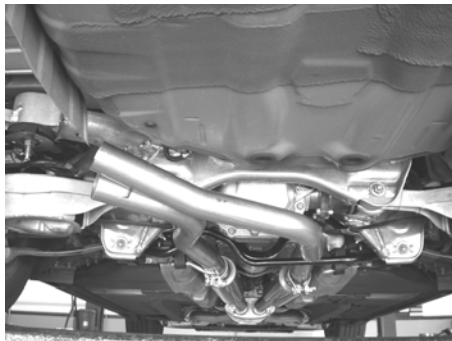

Figure 5
3. Place a clamp over the expanded end of both left and right under axle pipes and set them into position as shown in figure 5 making sure to install the hanger located on the left under axle pipe into the rubber bracket. DO NOT tighten the clamps.